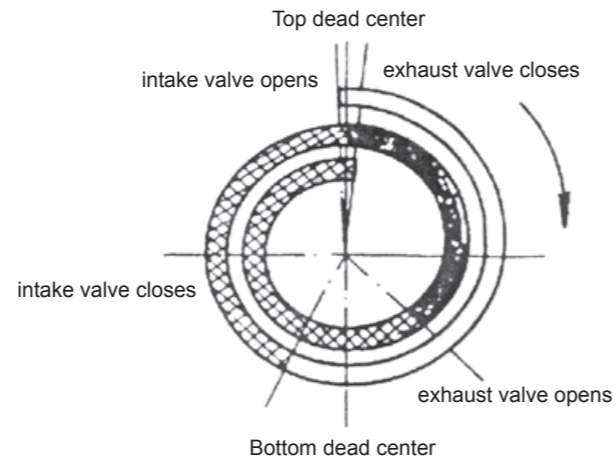

Fig 5-1
1.1.2.8 Air distribution timing (1 mm clearance) (See Fig 5-1)